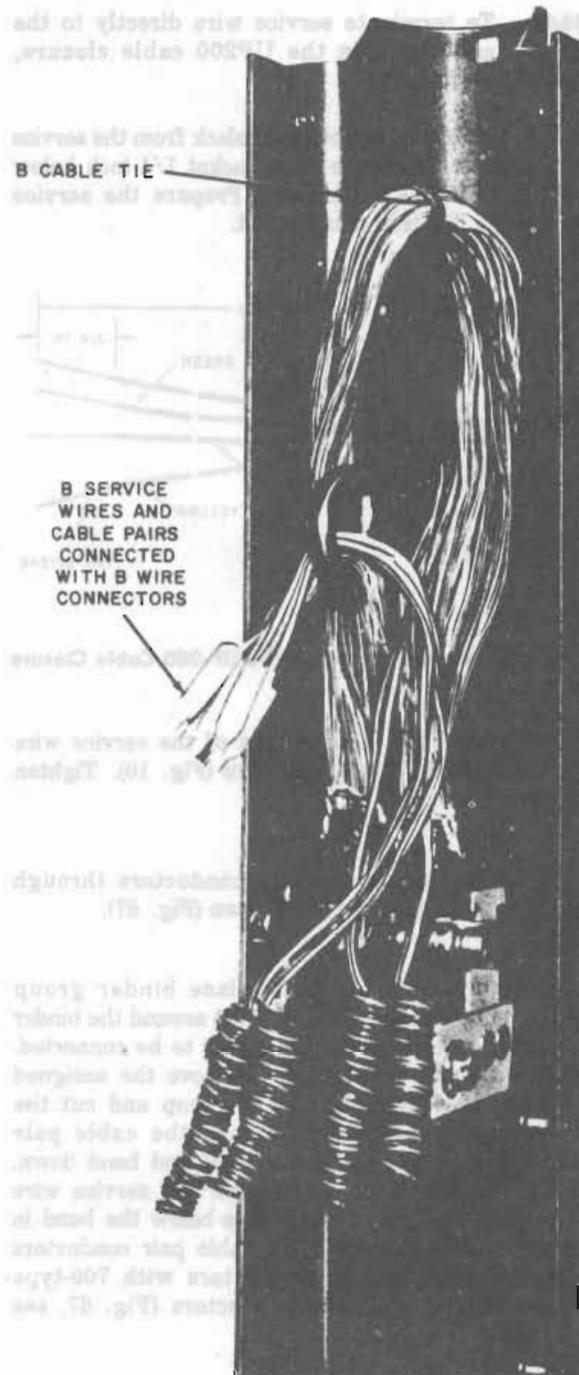

**Fig. 64—Prepared Service Wire—D Cable Closure**
- (1) Remove all unnecessary slack from the service wire. Mark the outer jacket 1/4 inch below the AT-7796X connector. Prepare the service wire as illustrated in Fig. 64.